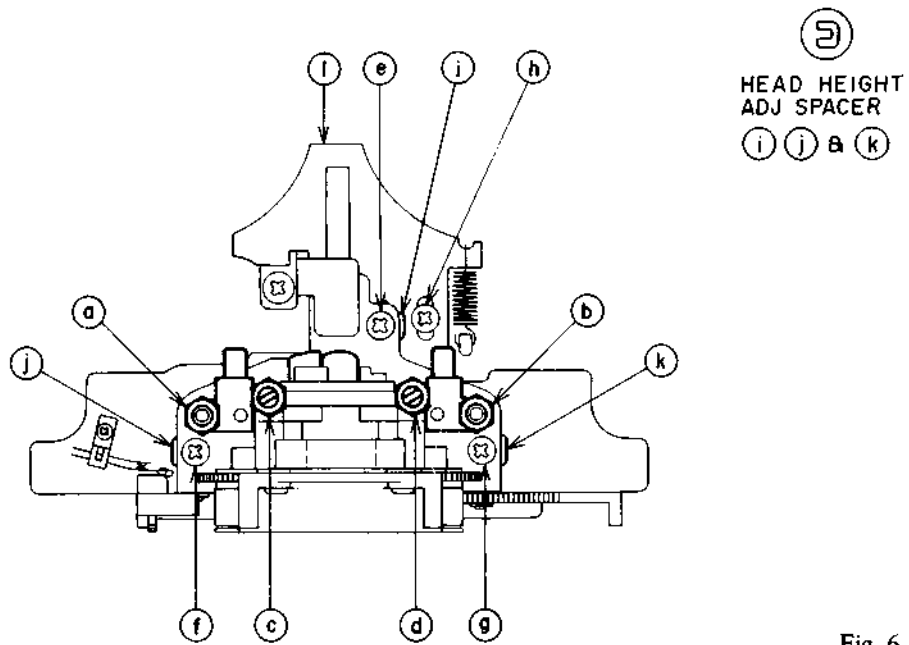

Fig. 6-2
- 2) Adjust the tape guides A and B by turning the tape guide height adjustment nuts (a) and (b) in Fig. 6-2, so that the tape runs smoothly by the lower edge of both tape guides, and the tape is not hitched by those tape guides.
6-4 HEAD BLOCK PROJECTION ADJUSTMENT (Refer to Figs. 6-2 & 6-3)